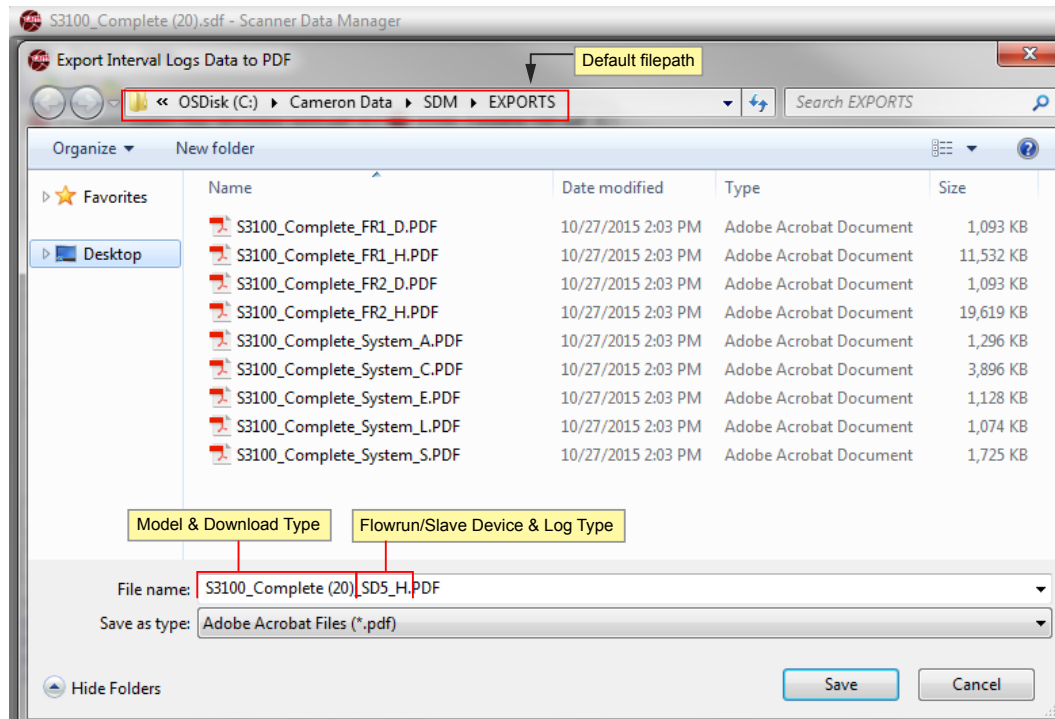
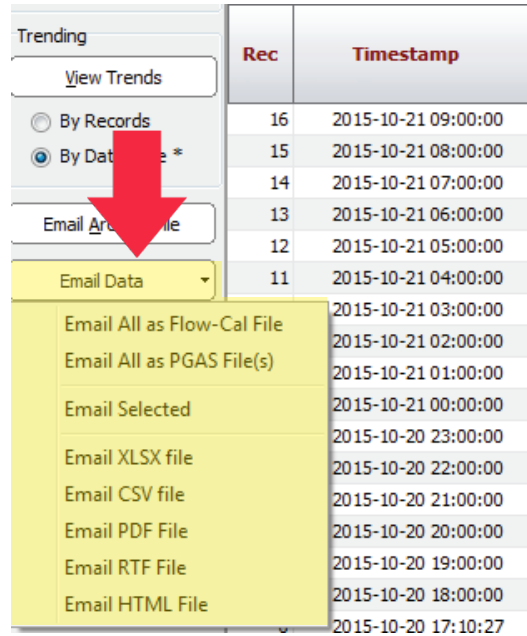

Figure 3.2—Export [Log Type] Data screen
Figure 3.4—Email Data button and dropdown menu
4. Note the filepath (Figure 3.2, page 31) and change if necessary. By default, export files are saved to the “C:\Cameron Data\SDM\Exports” directory on the user’s hard drive.
- Click on the **Email Data** button in the left column of the screen (Figure 3.4) and click the desired **Email [log type] file** selection from the dropdown list. The *Export [Log Type] Data to...* dialog (Figure 3.2, page 31) will appear.